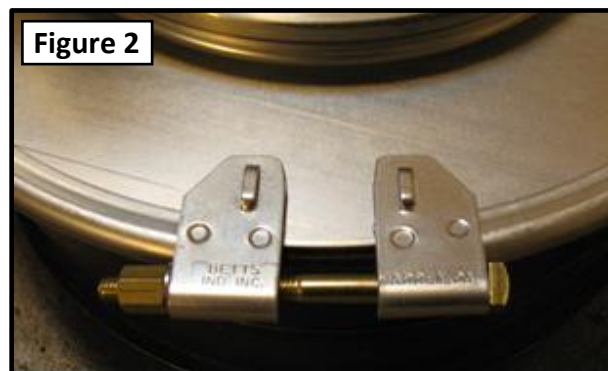

Figure 2
- 7) The Betts logo on the lugs should be visible on the top of the manhole (see figure 2) and the clamp ring should be completely engaged over the cover and lip of the collar along the entire perimeter of the clamp ring.